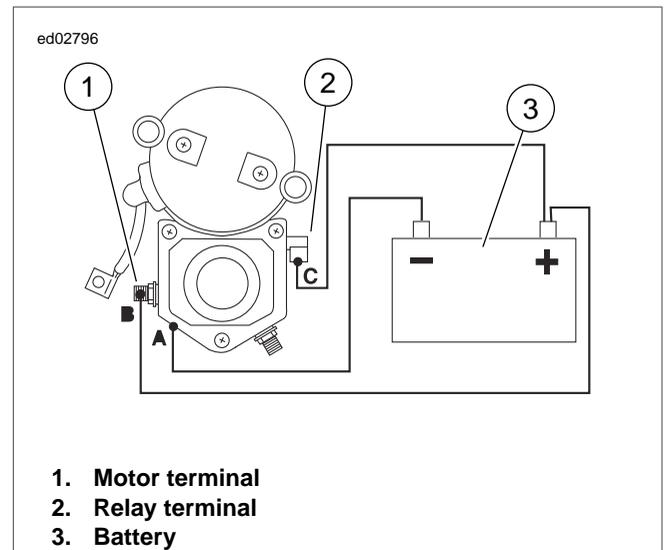

Figure 1-10. Hold-In Test
1. See Figure 1-10. With test leads still connected in the manner specified in the previous 1.6 TESTING STARTER ON BENCH, Solenoid Pull-In Test, disconnect solenoid motor terminal/battery negative test lead at negative battery post only; reconnect loose end of this test lead to positive battery post instead.